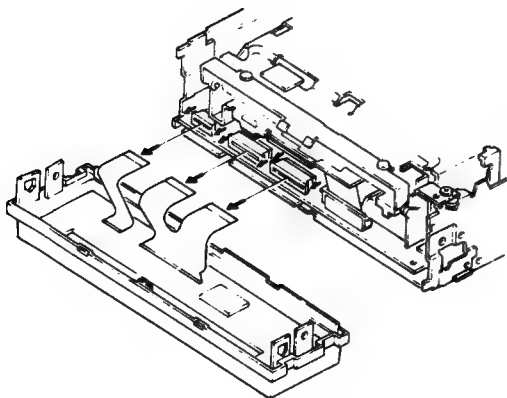

Fig. 3
4. Disconnect the three connectors, and then remove the grille assy. (Fig. 3)